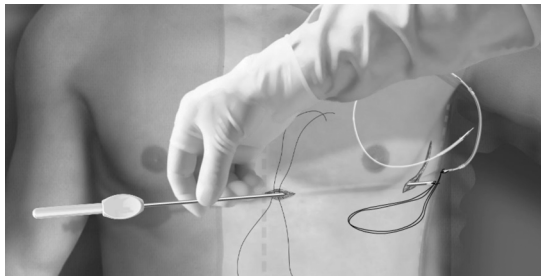

Figure 13. Connecting the Distal End of the Subcutaneous Electrode to the EIT
3. Using conventional suture material, tie the anchoring hole of the subcutaneous electrode to the EIT, creating a long 15-16 cm loop (Figure 13 Connecting the Distal End of the Subcutaneous Electrode to the EIT on page 39).